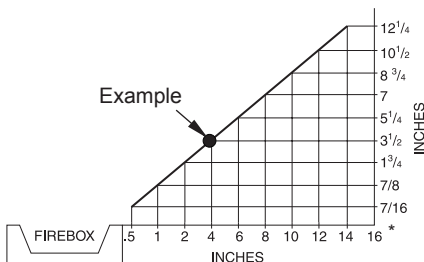

Figure 4 - Minimum Clearance for Combustible to Wall
- where curtains, furniture, clothing or other flammable objects are less than 36" from the front and 42" from top heater. For side clearances see Figure 4 page 10
A. Clearances from the side of the fireplace cabinet to any combustible material and wall should follow diagram in Figure 4.
Example: The face of a mantel, bookshelf, etc. is made of combustible material and protrudes 3 1/2" from the wall. This combustible material must be 4" from the side of the fireplace cabinet (see Figure 4).